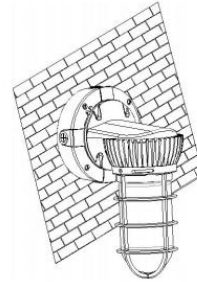

FIG.3
4. Screw the fixture back to the junction box by 4 screws. **See FIG 3.**
3. Loosen the four screws at Location C, remove the arm ⑤, waterproof gasket ⑥. **See FIG.3**
3. Screw heat sink ④ to pendant cap ⑦ by using the previous 2pcs screws, please keep the waterproof ring in place in the heat sink, the suggested screw torque is 10kgf.cm/0.98N.m. **See FIG.3**